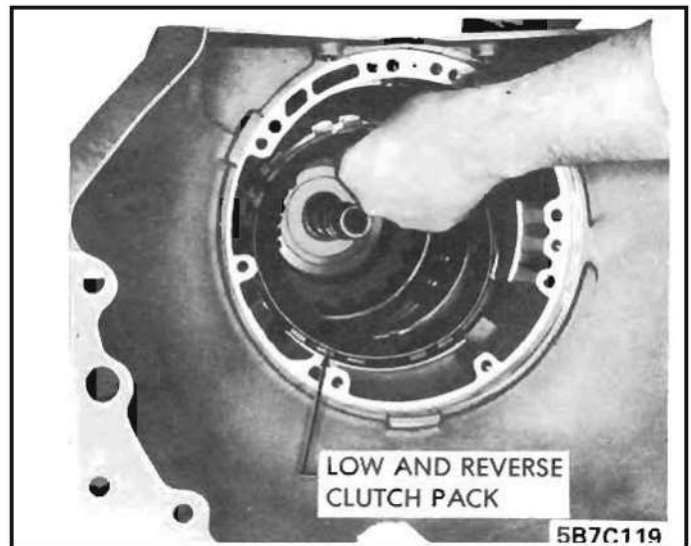

Figure 37 Lo and Reverse Clutch Removal
1. Remove the low and reverse clutch composition plates and the steel separator plates. See Figure 37.